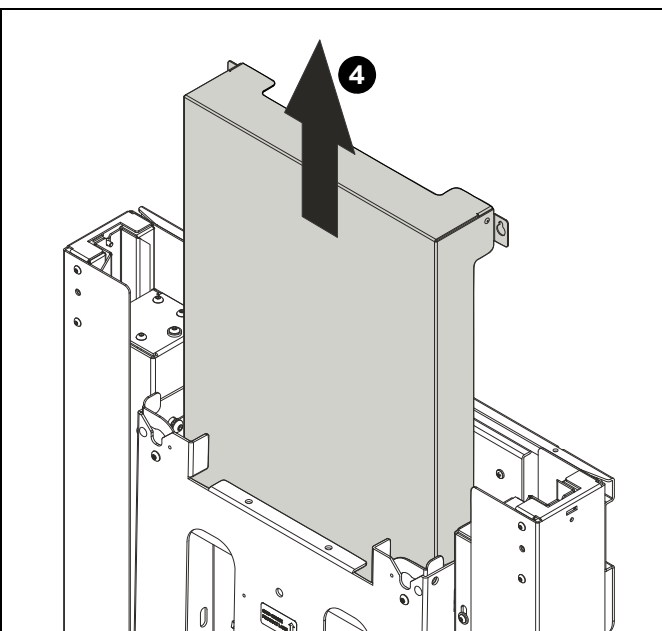

Figure 23
4. Remove inner cover from XSD1U. (See Figure 23)